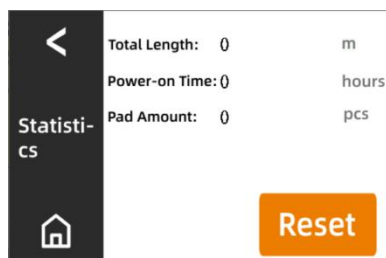

Figure 3.4
- 1) Click  on the **Setting** interface to enter the statistics interface (Figure 3.4);